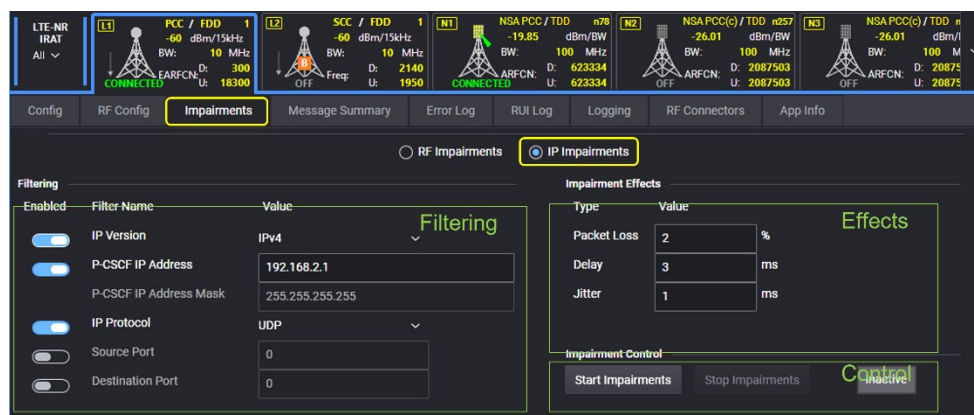

Figure 13. Add IP impairments to voice packets
- IP impairments for voice connections simulate packet loss, jitter, or delay (Figure 13)